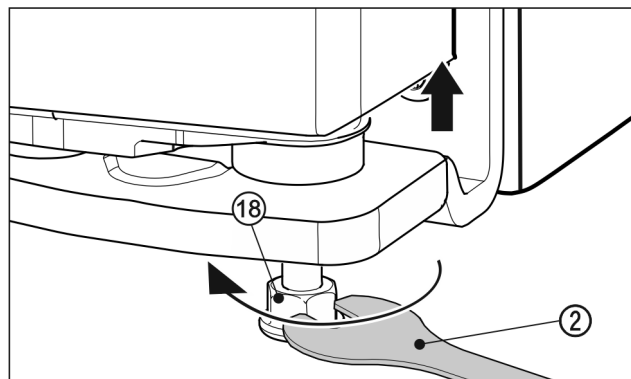

Fig. 22
- To lift the door, unscrew the adjusting foot *Fig. 22 (18)* clockwise using the supplied open-ended spanner *Fig. 22 (2)* until the foot comes into contact with the floor. Then continue turning until the door is adjusted to the right height. When delivered, the bearing pin is completely screwed in.